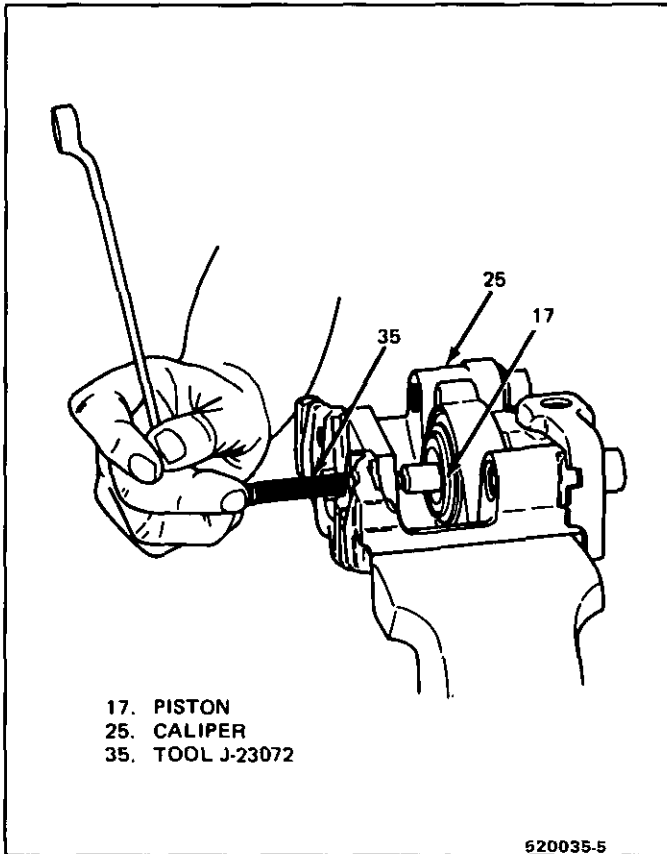

Fig. 12 Installing Piston
4. Lubricate new seals and caliper housing bore (25) with brake fluid.
- Piston seal (18) into caliper bore groove.
- Boot (15) on piston (17) with inside lip of boot in piston groove and boot fold toward end of piston that contacts inboard brake shoe.
5. Thrust washer (21) on actuator screw (19) with copper side of washer towards the piston assembly and the grayish surface towards the caliper housing.
6. Shaft seal (22) onto actuator screw (19) after lubricating with clean brake fluid.
7. Actuator screw (19) in piston (17) after lubricating with clean brake fluid.
8. Balance spring (20) into piston recess.
9. Lubricate piston (17) with clean brake fluid.
- Start piston (17) into caliper bore (25).
- Push piston to bottom of bore using J-23072 (35) as shown in Figure 12.